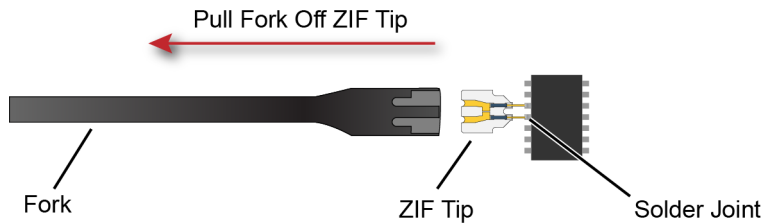

Figure 30 Removing the Handle from the ZIF Tip
- 6 Pull the ZIF handle from the ZIF tip in the direction shown in **Figure 30**. ZIF tips can be carefully handled with your fingertips and reinserted into a plastic handle if necessary.